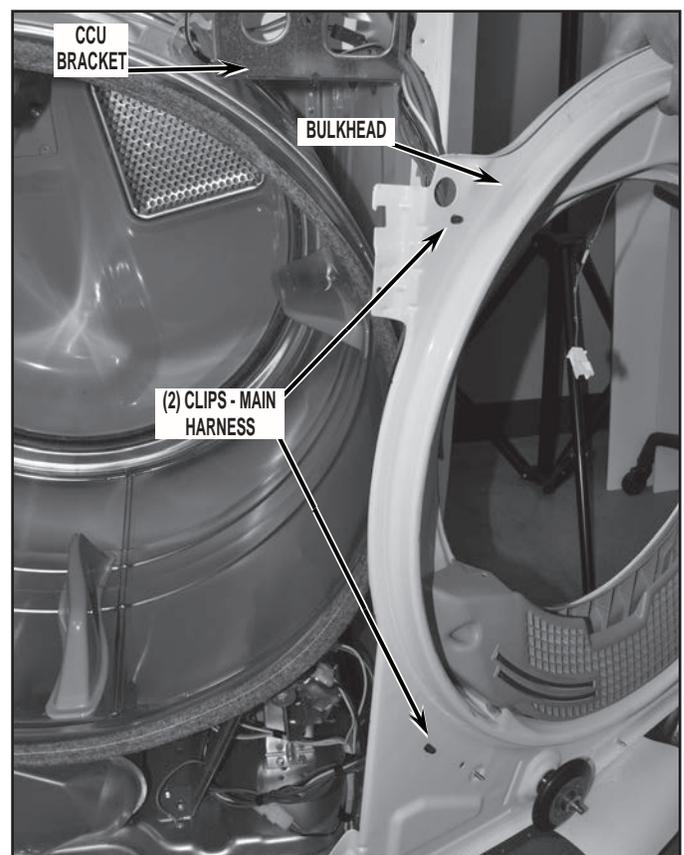

FIGURE 15
18. Swing bulkhead assembly to side and remove two (2) harness clips to disconnect harness from bulkhead. See *Figure 15*.